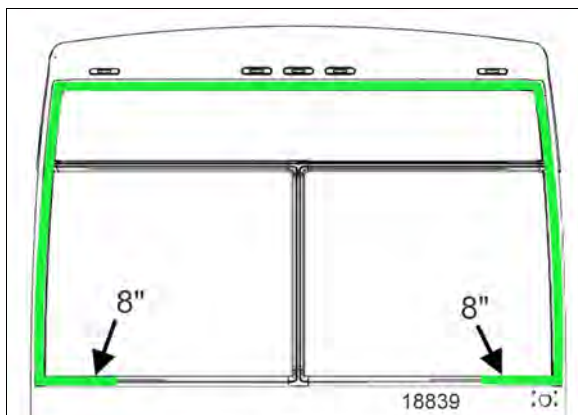

FIGURE 32: ADHESIVE LOCATION IN SEAL
4. Apply a 1/8" bead of adhesive #684685 to the top, both sides and 8" in the bottom as shown in Figure 32. Apply adhesive before placing gasket on vehicle structure to control quality and continuity of the bead. This method helps achieve a watertight installation.